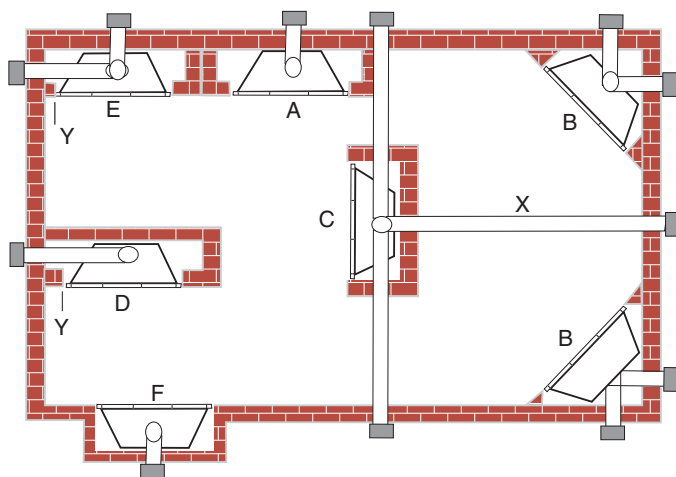

**Figure 3 -
- This fireplace may be installed along a wall, across a corner, or use an exterior chase. *Refer to Figure 3 for suggested locations.*